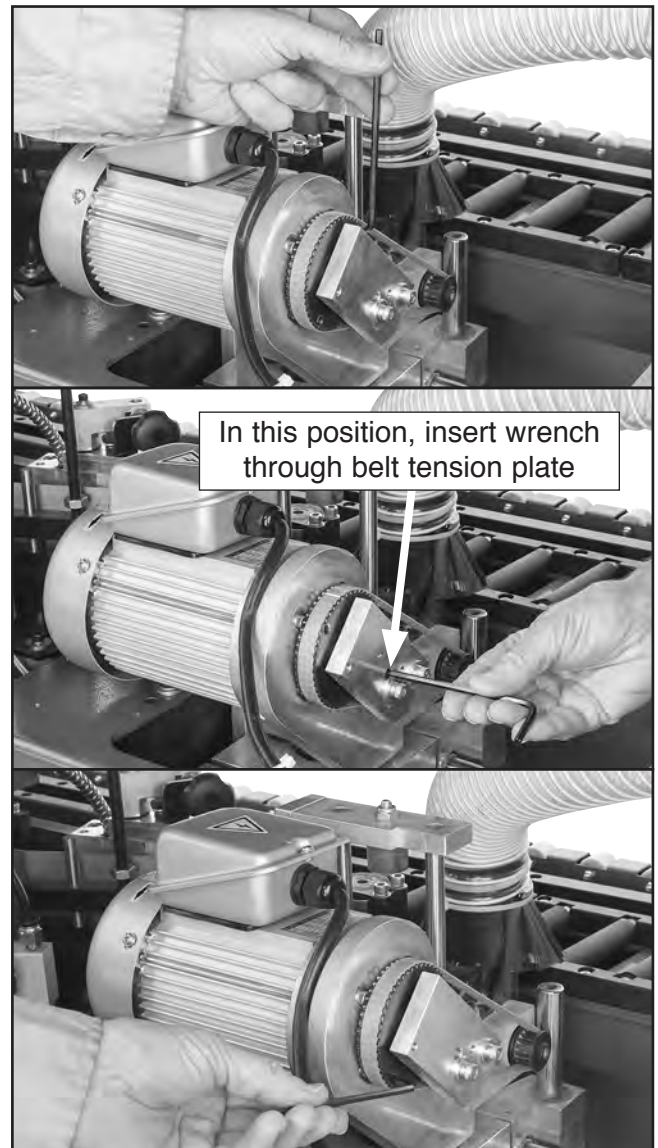

Figure 109. Loosening remaining end trimmer motor mount cap screws.
- Repeat **Steps 5–6** with remaining motor mount cap screws (see **Figure 109**).